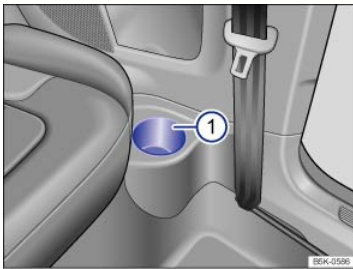

Fig. 131 In the trim next to the rear seats (2-door models only): Cup holder.
Some 2-door vehicles are equipped with open cup holders in the trim next to the rear seats ⇒ Fig. 131①.